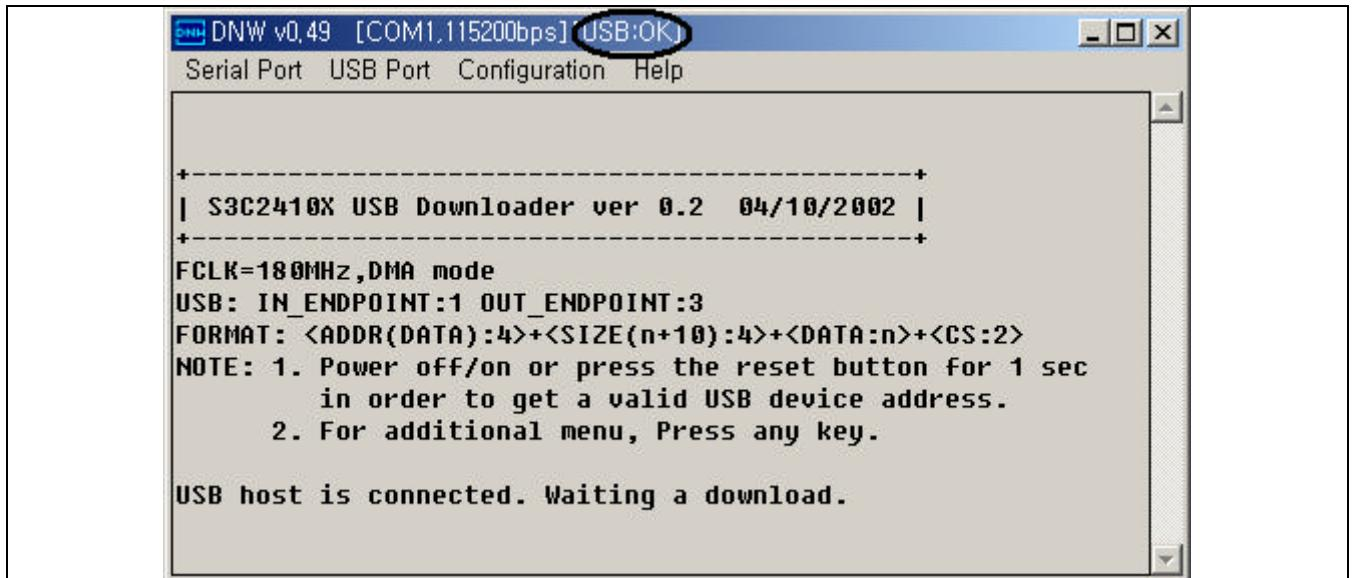

Figure 3-4. DNW Window (after Turning on the SMDK2410)
3. Connect the serial and USB cable from the host PC to SMDK2410 system and turn on the power of SMDK2410 board (See Figure 3-4).